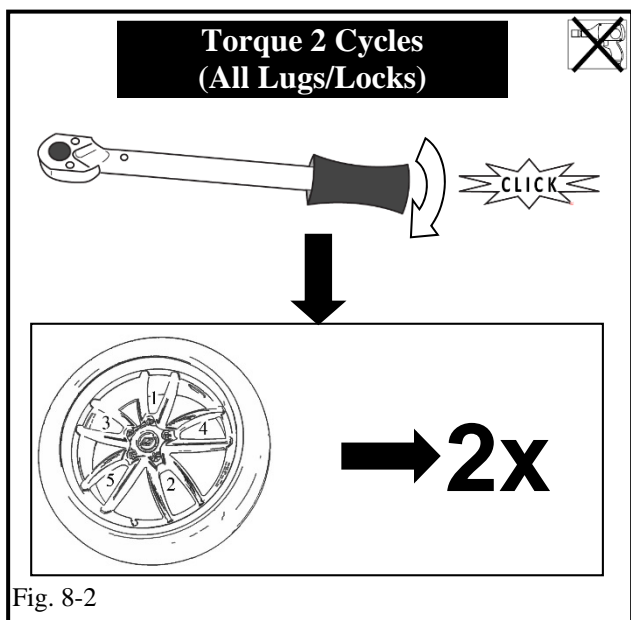

Fig. 8-2
- (b) Tighten the lug nuts in sequence 1 through 5 (Fig. 8-2). Ensure that the socket does not scuff the wheels. Tighten to 76 ft-lbf (103 N-m) using a torque wrench.
- (c) Re-torque all lug nuts in the same 1-5 sequence (Fig. 8-2).